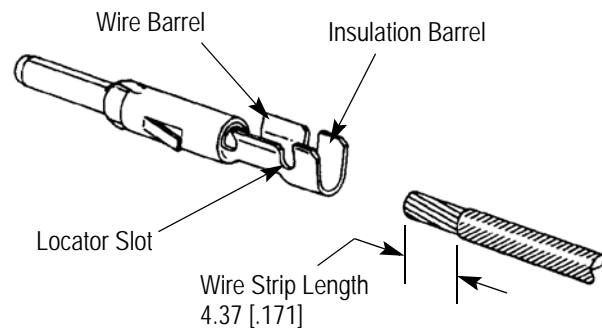

Figure 2
The contact locator/insulation stop positions the contact between the crimping dies. In addition, the locator/insulation stop aids in locating the wire in the contact. In use, it rests in the contact locator slot. See Figures 2 and 3.
Hand Crimping Tool 90260-1 is designed to crimp the Type XI loose piece (LP) contacts listed in Figure 2. Read these instructions thoroughly before crimping any contacts.
Refer to the chart in Figure 2 and select wire within the specified wire size and insulation diameter. Strip the wire to the length indicated -do NOT cut or nick the wire strands.
- Changed footnote characters in Figure 2.